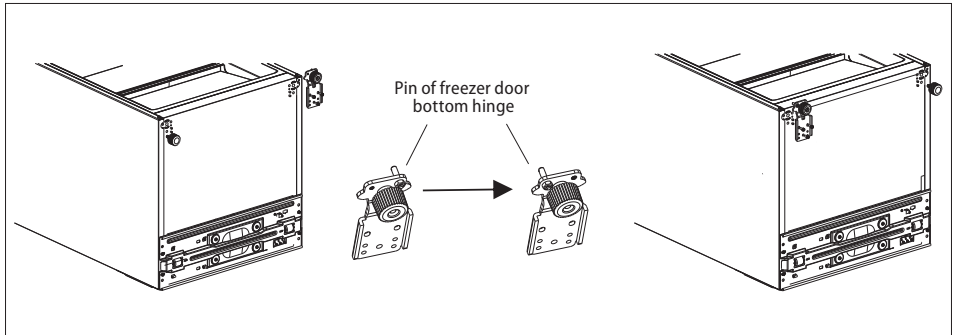

Fig. 3
5. Remove the blind plugs and the bottom hinges of the freezer (Fig. 3).
6. Move the pin for fixing the freezer door to the other side of the freezer bottom hinge (Fig. 3). Install the freezer bottom hinge on the other bottom side of the unit as shown in Fig. 3.